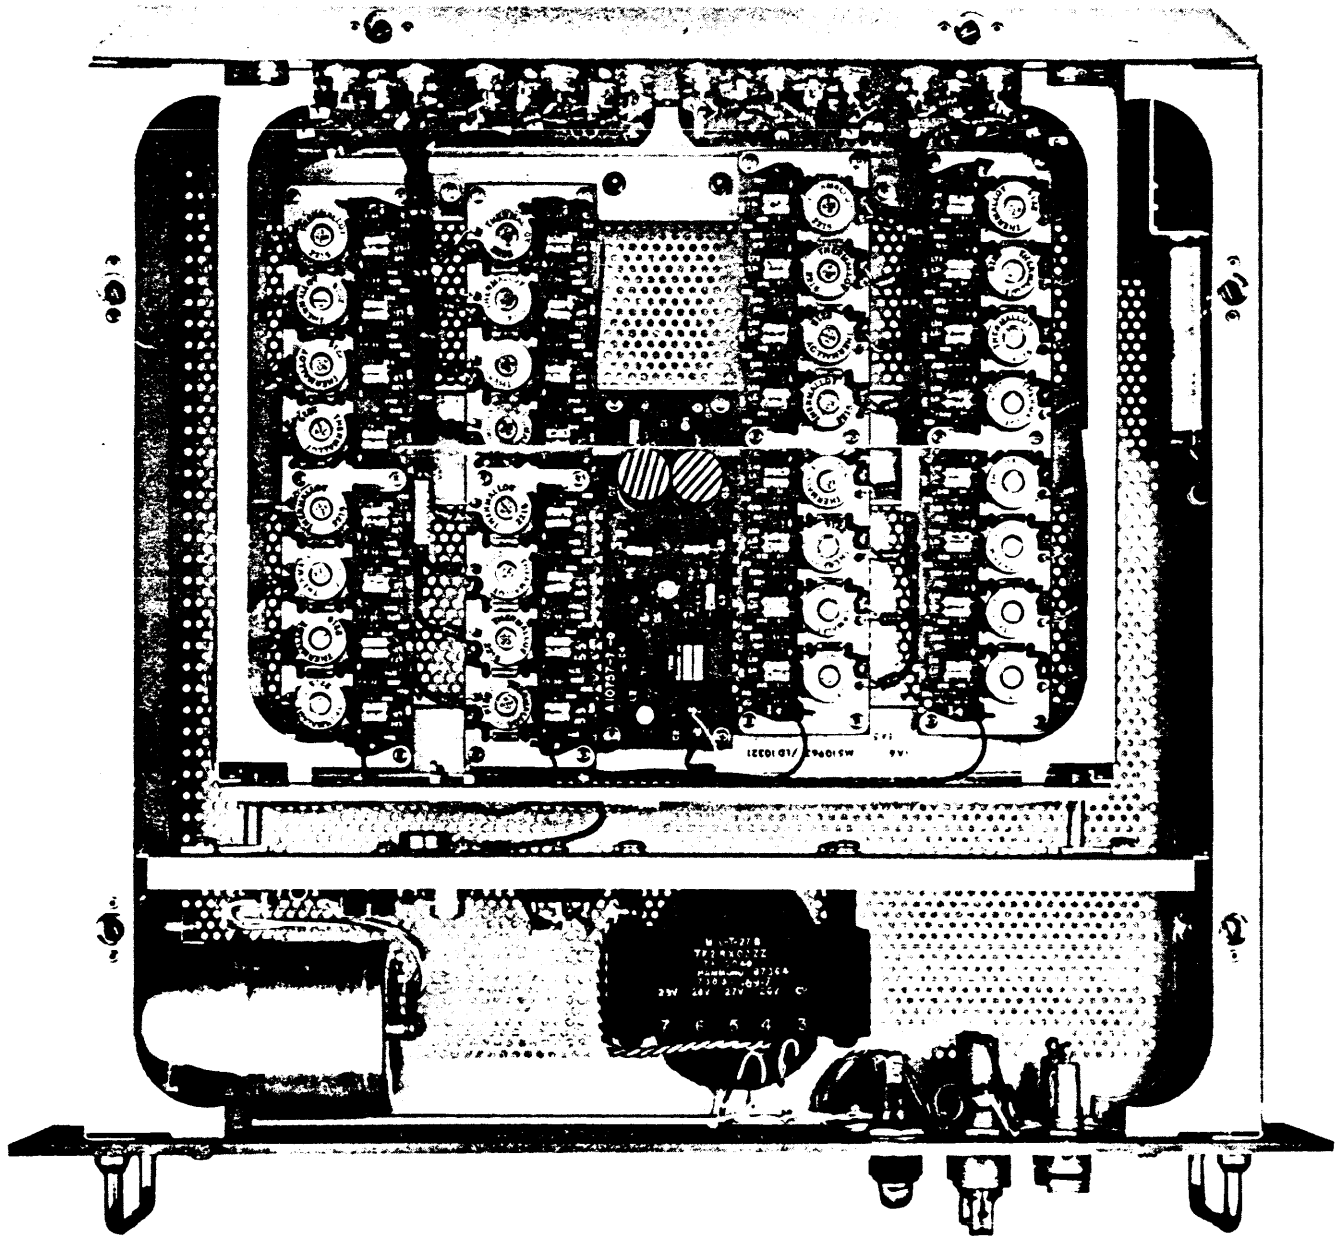

FIGURE 5-1 TOP VIEW, COVER REMOVED, AMC-32
(2) For aid in the location of components, refer to Figures 5-1 to 5-4 inclusive.